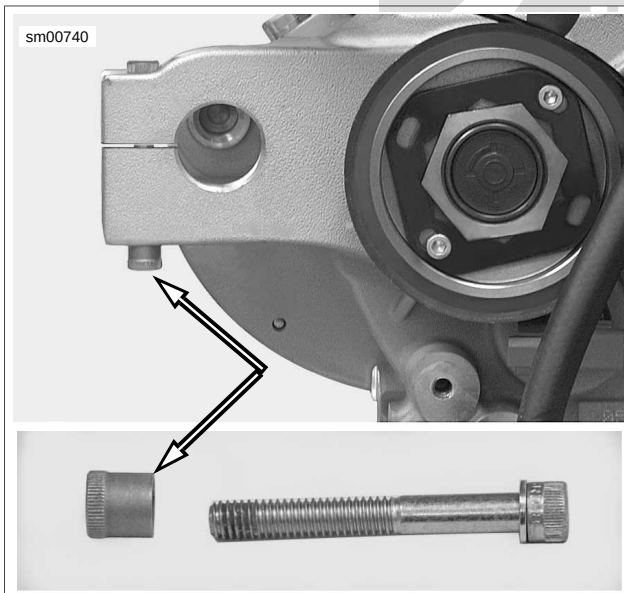

Figure 3-19. Threaded Insert
- See Figure 3-19. Swingarm pivot shaft pinch bolt threaded insert.